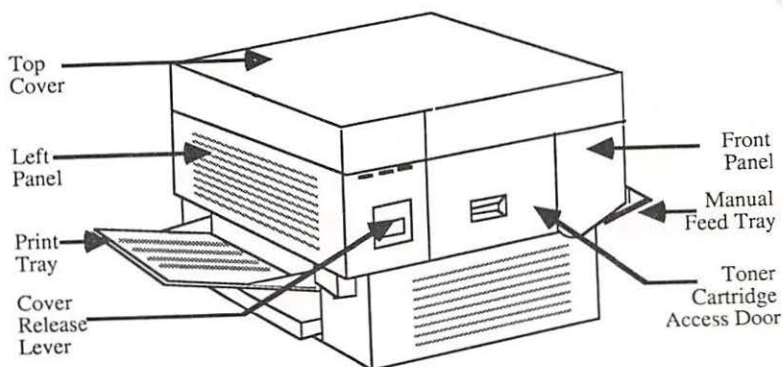

FIGURE 2-3: FRONT VIEW
A. Top Cover (See Figure 2-3)
B. Front Panel (See Figure 2-3)